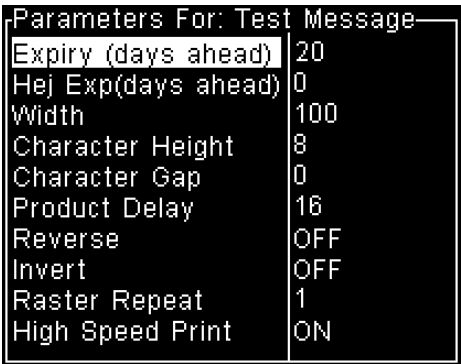

Figure 5-34: Message Parameters Dialog Box
- 3 Press Enter to open the Message Parameters dialog box (Figure 5-34).